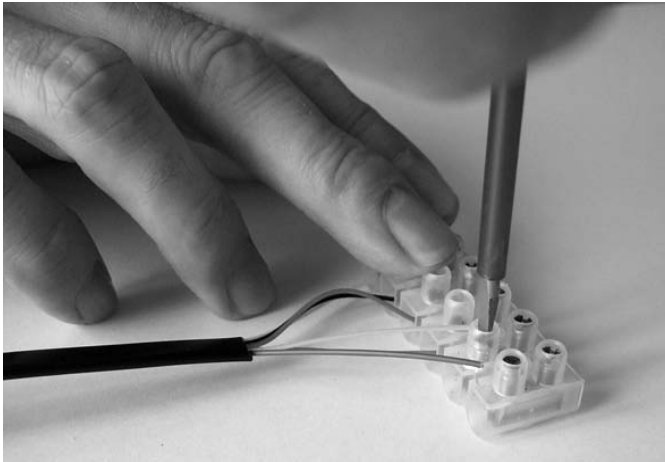
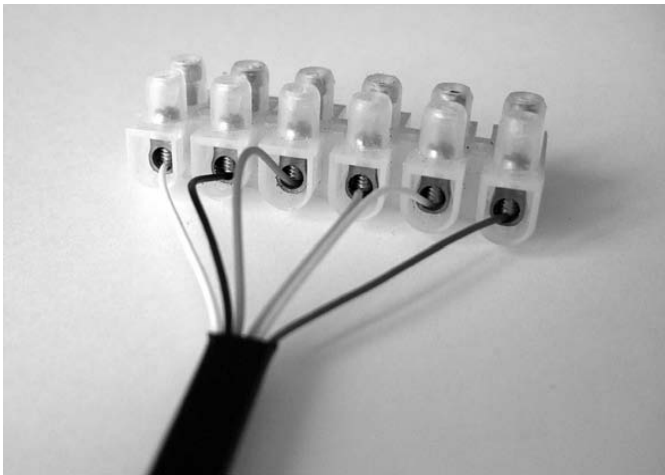

Figure 3-20. Cut cable method step 4: screw the cable
Figure 3-21. Cut cable method step 5: all wires are screwed in the terminal block
4. Screw the wires in the screw terminal, as shown in Figure 3-20. The first part of the cable should look like Figure 3-21.